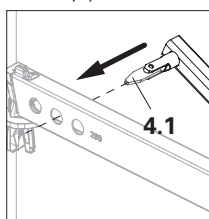

Fig. A1.03a
- Insert the gravity pin (4.1) through the holes of the top Horizontal Ledger UH-2, and then turn sideways. (Fig. A1.03a + A1.03b) → Ledger brace is now secured.